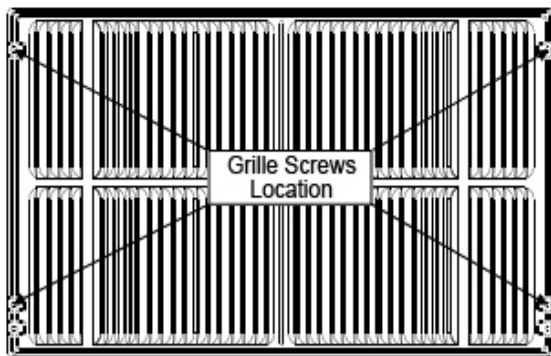

Fig. 2
4. If the unit has not been pre-drilled (some models), carefully drill 4-1/8" holes through the grille and into the side flange of the unit approximately 1 1/2" to 2" from the top and bottom as in Fig. 2, 3.
5. Install (4) #8 self tapping screws to affix the grille to the unit.